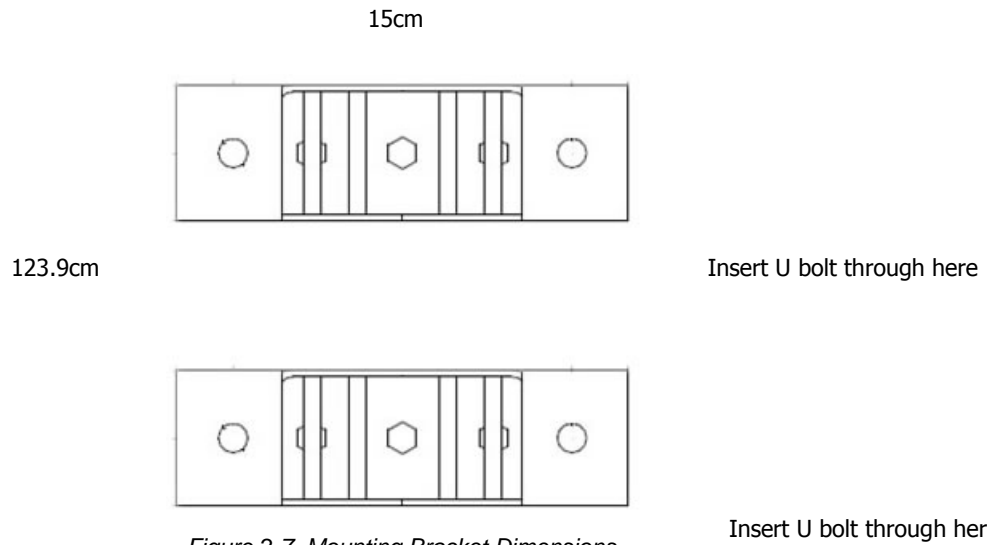

Figure 2-7. Mounting Bracket Dimensions
- a. **U-Bolt (not supplied):** Insert one U-Bolt (per bracket) through the two mounting holes of each bracket and secure the brackets to the pole at the indicated *distance of 123.9cm*. See Figure 2-7.
- b. **Hose Clamps (supplied):** Slip two hose clamps through each bracket as shown in *Figure 2-8* tightly secure each bracket to the pole, maintaining a distance of 123.9cm between bracket *holes* as shown in *Figure 2-7*.